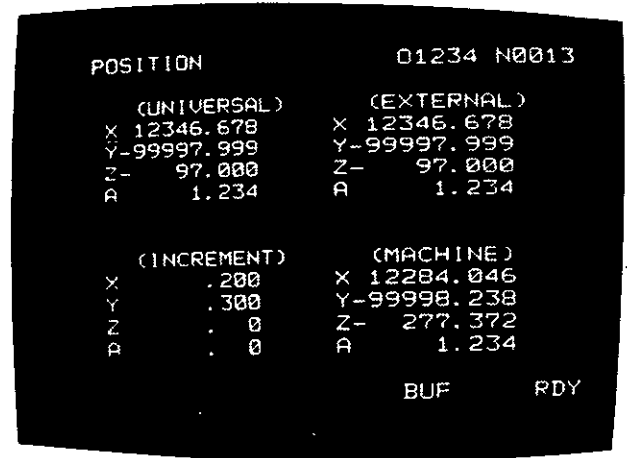

Fig. 4.22 Current Position Display
- <MACHINE> coordinates indicate the current position in the coordinate system whose origin is the reference point set up by resetting. Data for "stored stroke limit†" and "pitch error compensation†" functions are defined in this coordinate system. (Fig. 4.22)